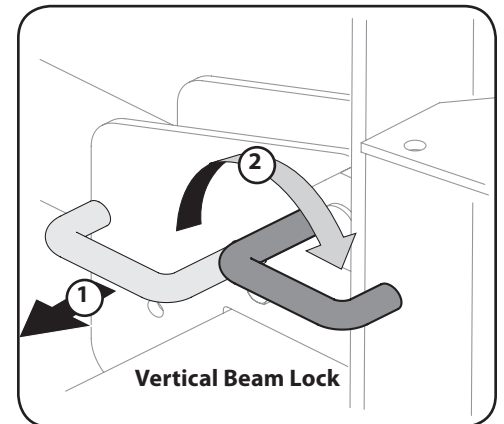

Figure 3-3
- b. To lock the beam in the vertical position, pull vertical beam lock out and rotate it to secure the beam. See Figure 3-3.